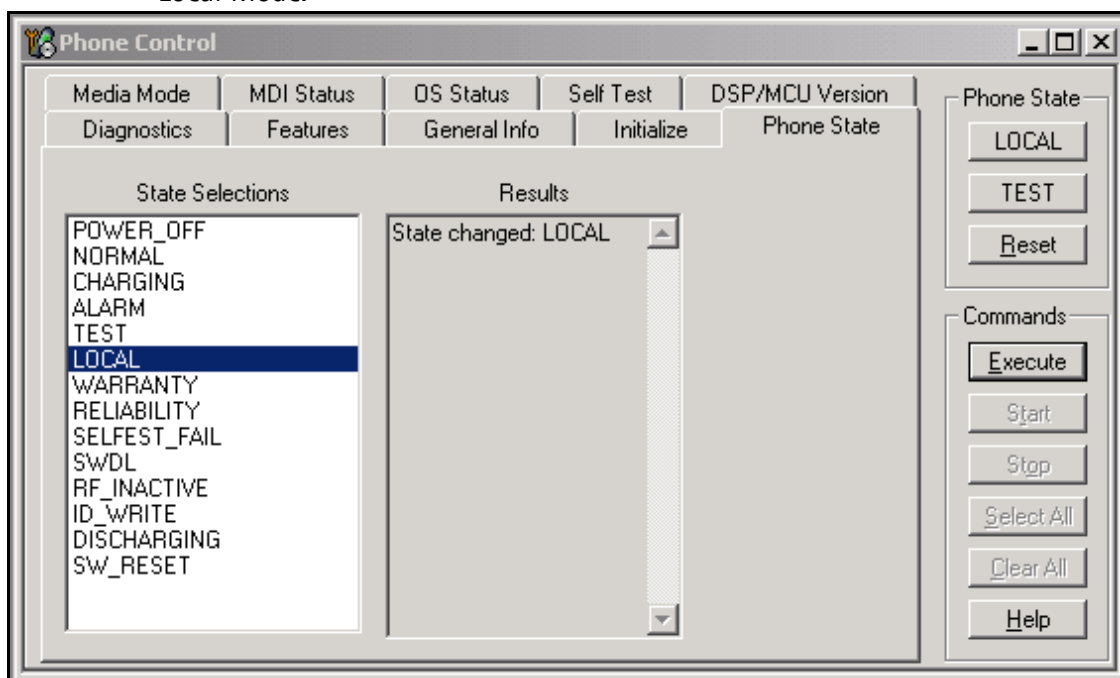

Figure 6: Phone Control dialog box
4. On the **Phone Control** dialog box, click the **LOCAL** button in the **Phone State** area to put the mobile terminal into Local Mode. (See Figure 6 on page 12.)
4. Open the **Troubleshooting** menu, and point to **Phone Control**. The **Phone Control** dialog box appears. (See Figure 6 on page 12.)